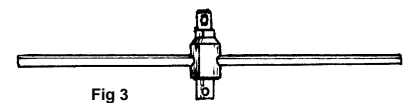

Fig 3
3. Clamp the cable securely in a vice, leaving about 20-25mm protruding above the vice (Fig 3). Drill out the centre of the plasticore and wire to the depth of about 25mm using a **19/64" Drill bit**.
4. Place either a male or female coupling into the TH728R Coupling Tool (Fig 3). Put a small amount of grease on the coupling thread and while maintaining a downward pressure between the coupling thread and the cable end, rotate the handle in a clockwise direction until the coupling is fully inserted into the cable end.